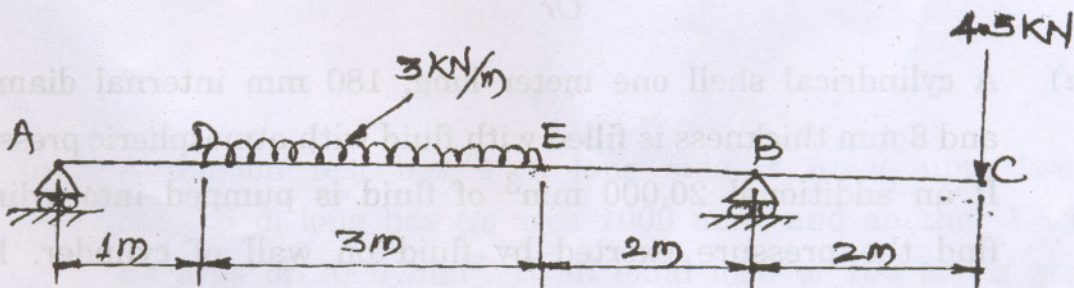

Fig. 4
6. (a) For an overhanging beam AC loaded and supported as shown in Fig. 4, determine :